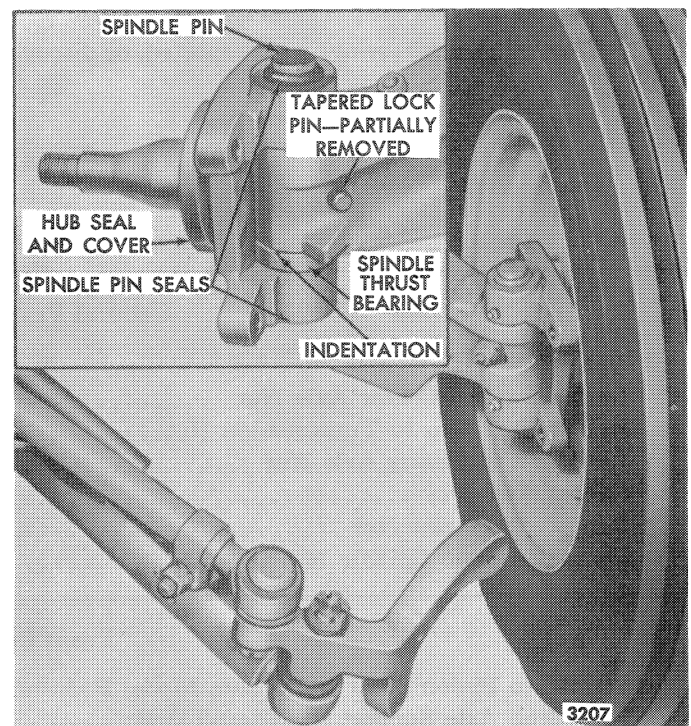

Figure 32—Spindle Removal
3. Position the steering arm with the power cylinder and/or tie rod aside, as shown in Figure 32.
5. Drive the locking pin out of the spindle pin from the rear, Figure 32.
2. Place the thrust bearing between the axle and the lower spindle bore, as shown in the insert in Figure 32. The indentation should be at the top of the bearing as shown.